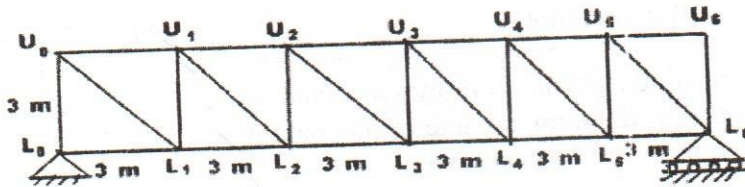

Fig.2
12. Analyse and draw the ILD for the forces in members  $U_2L_2$ ,  $U_3U_4$ ,  $L_1L_2$  and  $U_2L_3$  of the truss shown in fig.2